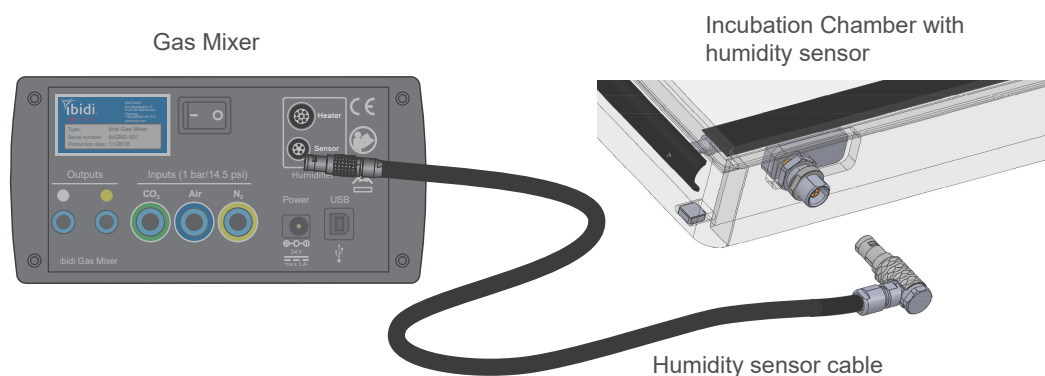

Figure 18: Connection of the humidity sensor cable to the humidity sensor.
2. Connect the other end (angled connector) to the humidity sensor mounted in the Heated Lid, as shown in Figure 18. Again make sure that the red dots on the connectors line up and push until the connector snaps into place.